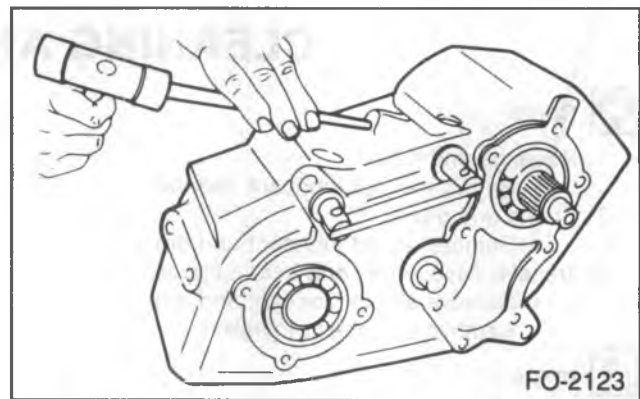

Figure 14—Installing the Shift Fork Roll Pin
- Input shaft bearing (12) and shaft (22) into the case.
- Range rail (39) into the case.
- Sliding clutch (34) and fork (77).
- Place the assembly over the input shaft (40) in the case.
- Position the assembly to receive the range rail (39).
- Lock pins (36).
- Drive the lock pins into the forks (figure 14).